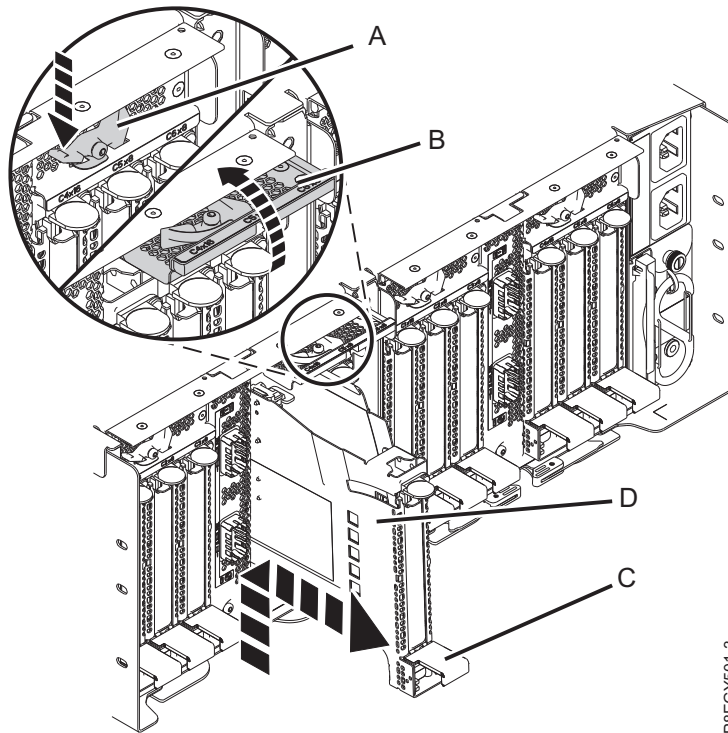

Figure 35. Removing a PCIe adapter cassette from the EMX0 PCIe3 expansion drawer
- a. Press the latch lever (A) at the target slot, as shown in Figure 35. This action will pivot the latch door up into the open position. See (B) in Figure 35.
- b. Lift up the cassette handle (C) and pull out the cassette (D) from its slot as shown in Figure 35.